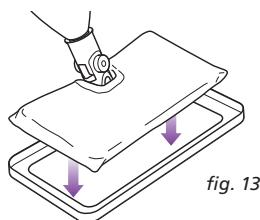

fig. 13
- The Carpet Glider can be used with the All-Purpose Head to lightly steam your carpet and area rugs. Just place the mop head with the cleaning pad attached into the glider. The recommended steam setting is **SCRUB** when using the Carpet Glider. (fig. 13)